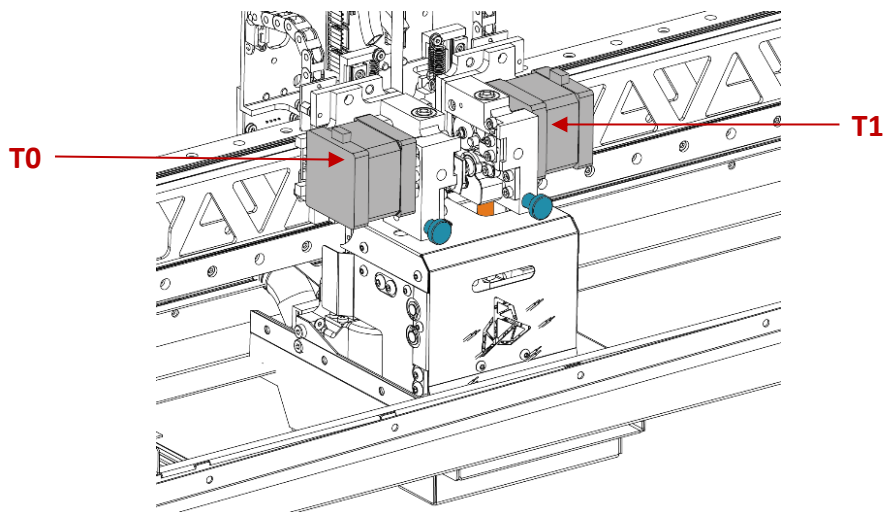
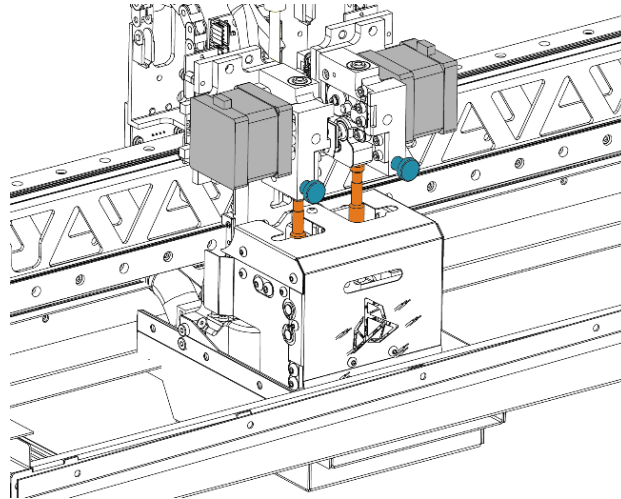

Fig. 82 Unlocking the extruders – step 1
Fig. 83 Unlocking the extruders – step 2
11. Unlock the T0 extruder and the T1 extruder (Fig. 82, grey) from the hotend sleeve (Fig. 82, 83, orange) by pressing the locking mechanism of the T0 extruder (Fig. 82, blue). The properly unlocked extruder will remain in a higher position (Fig. 83, grey).
20. Press and hold the extruder locking mechanism T0 (Fig. 83, blue), lower the extruder T0 and release (Fig. 83, grey). Check that the extruder is locked on the hotend sleeve by pushing it slightly upwards. The properly locked extruder will remain in a lower position (Fig. 82). Repeat the procedure for the T1 extruder.